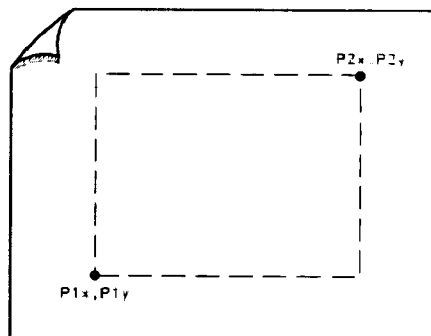

Figure 4-5. P1 and P2 Coordinates
3. Know how to select the scaling points on your plotter. The scaling points (referred to as the P1 and P2 plotter coordinates) define the lower-left and upper-right corners of the plot (see Figure 4-5). These coordinates define the size of the plot. Table 4-1 shows the scaling points for several Hewlett- Packard plotters.